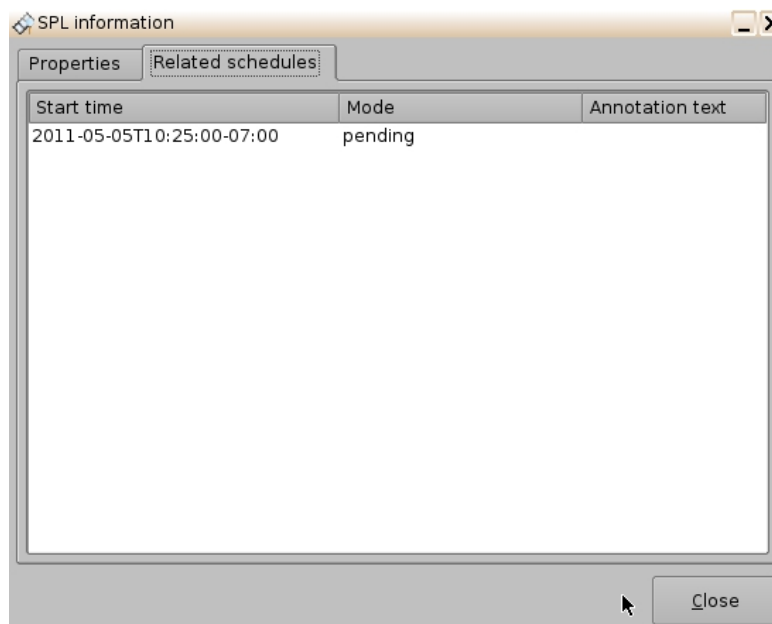

Figure 69: SPL Information Window - Related Schedules Tab
- The second tab of the SPL information window displays the related schedules (Figure 69).